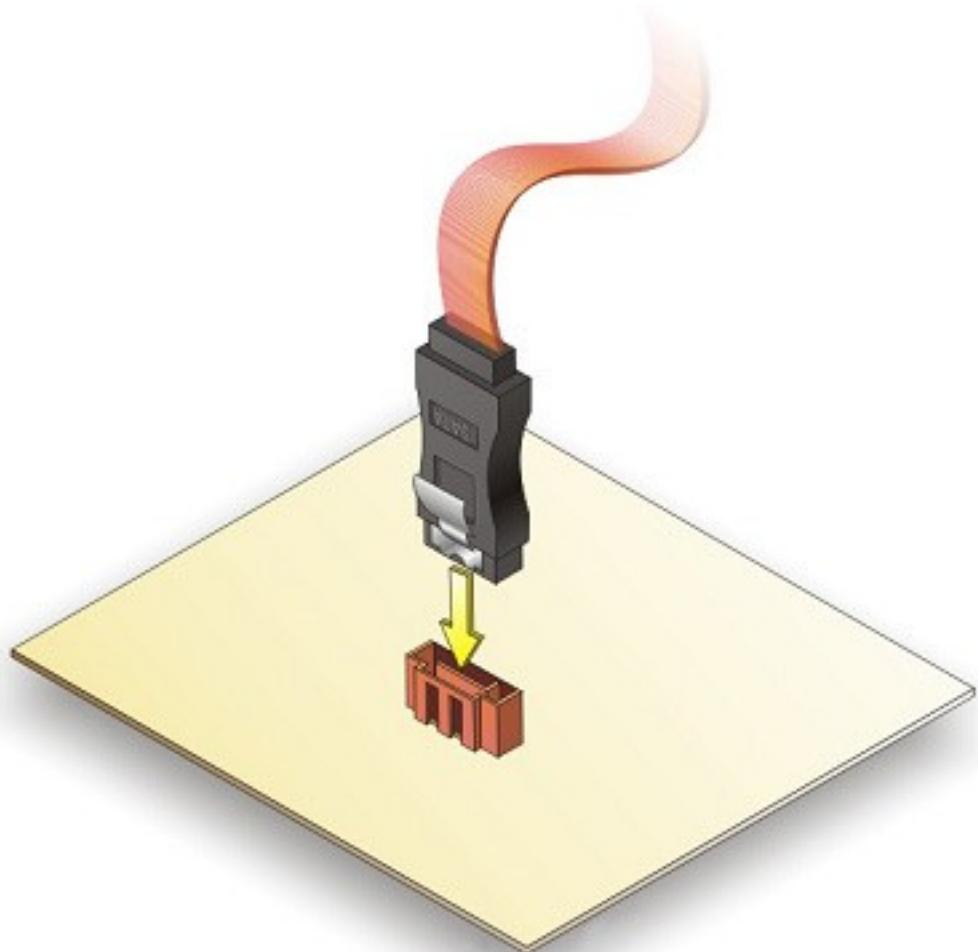

Figure 4-19: SATA Drive Cable Connection
Step 2: Insert the cable connector. Insert the cable connector into the onboard SATA drive connector until it clips into place. See Figure 4-19.